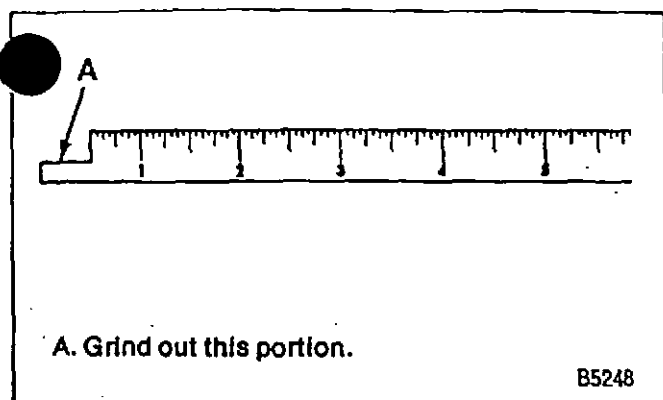

Figure 62—Cutaway Scale
Measure (Figures 62 and 63)
1. Use a narrow, thin scale. A cutaway scale (figure 62) may be helpful.